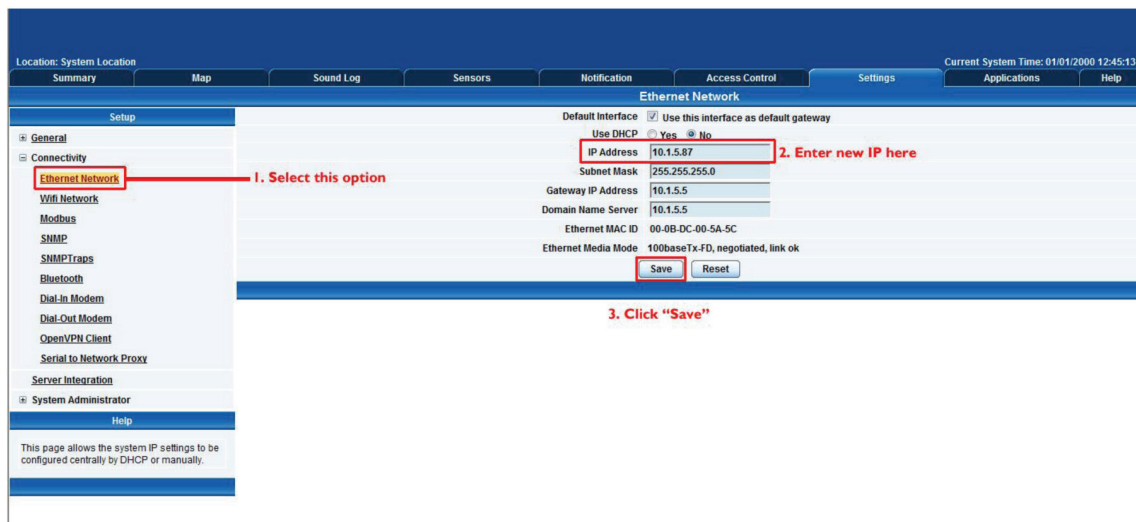

Figure 3-4. Ethernet Network screen.
5. Click on the "Settings" tab, then click on "Ethernet network" from the list on the left frame of the page. See Figure 3-4.